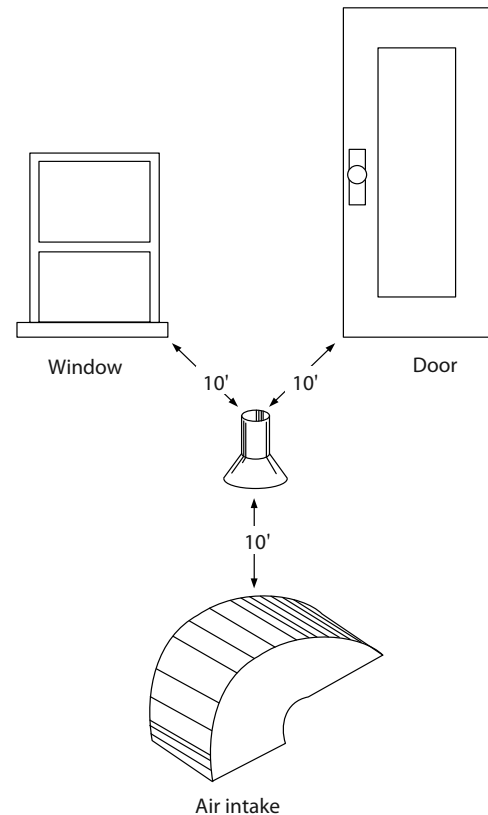

Figure 3-32
- You may not install a vent terminal for a sanitary system within 10 feet of any door, window that opens, or ventilating opening, unless it extends at least 3 feet above (or 2 feet in some codes) the top of that opening. See Figure 3-32.